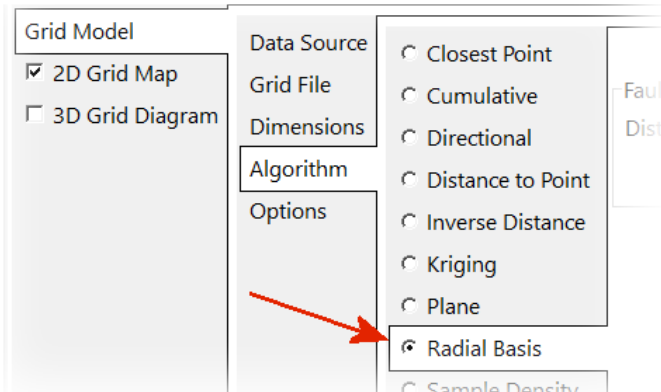

Figure 34
- Click on the *Algorithm* tab and select the *Radial Basis* method (Figure 34). This will interpolate a grid model (and the contours that are based on it) using an algorithm that is well-suited for producing a reasonable contour map for this type of data. As you can see, there are other interpolation methods which you can explore and experiment with by clicking on the *Help* button.